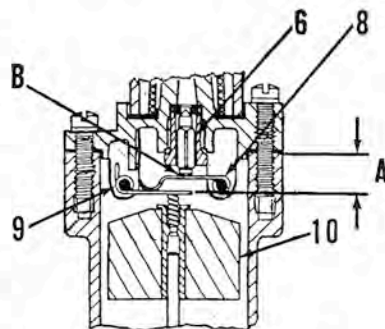

Fig. M2—Schematic view of float mechanism showing method of adjustment, Refer to text.
The recommended fuel level is approximately ¼-inch below gasket surface of float bowl. To adjust the fuel level, remove bowl cover (1) and refer to Fig M2. Invert the cover, and with inlet needle (6) closed, measure the distance between primary lever (9) and gasket surface of bowl cover as shown at (A). This dimension should be ⅜-inch, if it is not, bend the curved tang on secondary lever (8) until correct measurement is obtained. After adjusting the float height, bend the vertical tang on primary lever (9) to allow a maximum clearance (B) of 0.040 between secondary lever (8) and inlet needle (6).